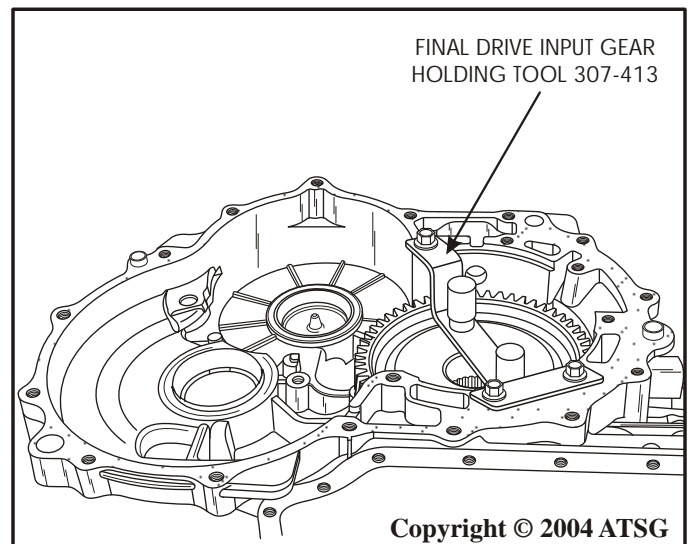

Figure 124
30. Lock the final drive input gear into position using the holding tool (See Figure 124).